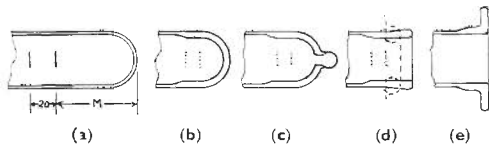

Fig 4
Most glass blowers are familiar with the sand blasted reagent bottle seen in laboratories. How many appreciate that here lies a very practical method for making holes in glass or ceramic materials. The illustration (Fig. 4) is of a small scale abrasive machine (Ref. 4), by means of which the gas blasting technique can be carried out. The control unit houses a twin vibrator which supplies an abrasive compound to the pen type guns shown, the motive force in this instance being nitrogen from a commercial cylinder at 80 PSI. Compressed air can of course be used, provided house service is available at this pressure and in a clean dry state. The principle abrasive used is Aluminium Oxide in three grit sizes 27 micron, 50 micron and 100 micron. The abrasive material is forced at high velocity through a Tungsten jet mounted in the pen, the resultant effect is the rapid removal of stock by erosion. Fine cuts '008" wide can be made quite easily. The hole is of a very precise nature with no burns or chipping. What is most important is that extremely thin sections can be worked by this cool and shockless method, even though the nozzle velocity may be in excess of 1,100 feet per second. This method has been used for making valve holes in precision bore glass tubing, where
(2) Hand forming. Refer to Fig. 4
In preparing the selected tube for making a flange, it is necessary to have the remote end closed by any suitable method. The end to be worked is best cut in the lathe by diamond scratch, small hot flame, and the application of wetted cotton wool; if it has been ground, it should be finished with the finest grit and carefully cleaned to avoid milk stain. The two marks are made at the length M and plus 20 to 30mm. It is then mounted in the lathe and worked up to the stage *d*, Fig. 4. Large brush fires are preferred, two opposed if the tubing is over 40mm; if only multi-jet chisel burners are available, they should be turned through an angle, to give a wide heating band.